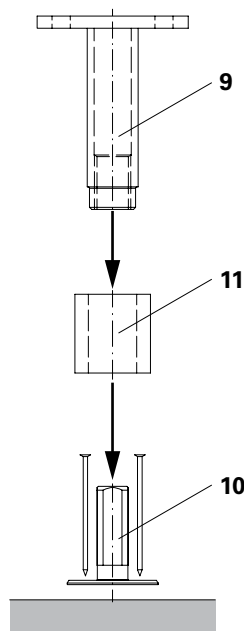

Fig. A3.02
1. Mount Anchor Positioning Stud M24 (10) on the formlining by means of 4x wire nails 3 x 80. (Fig. A3.02)